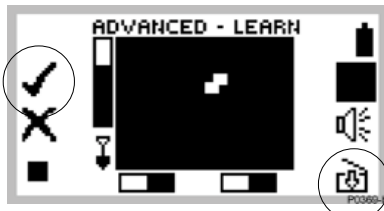

Figure 6.5 Adjusting size of learnt region
- STEP 7** Wave the search coil several times above the desired target until the detector learns it by clearing an area on the screen. Learn needs to 'see' the target consistently to accept it for inclusion. If you have more than one target, repeat the procedure for each one. In Figure 6.5, two current high denomination coins have been used.